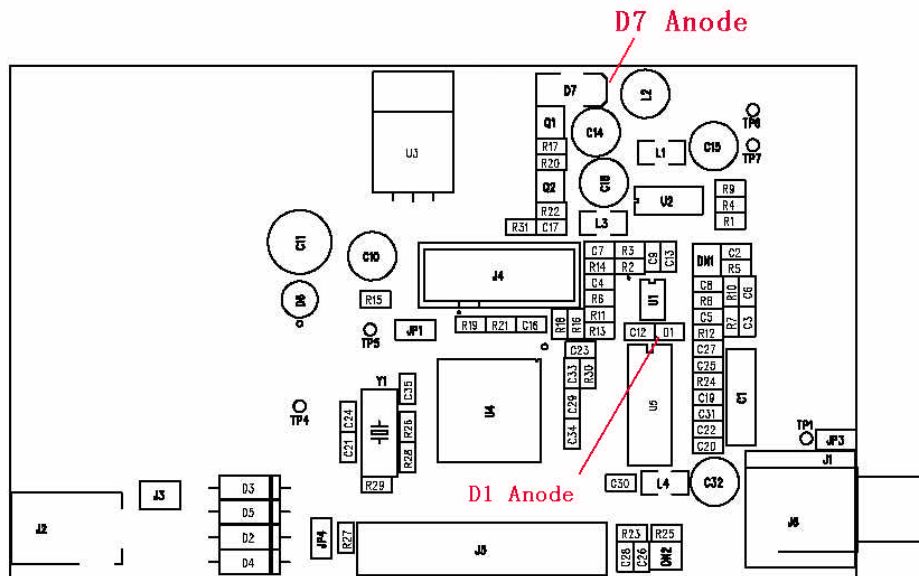

Fig. 1
- 1) The polarity of D1 and D7 (shown in Fig. 1 below)